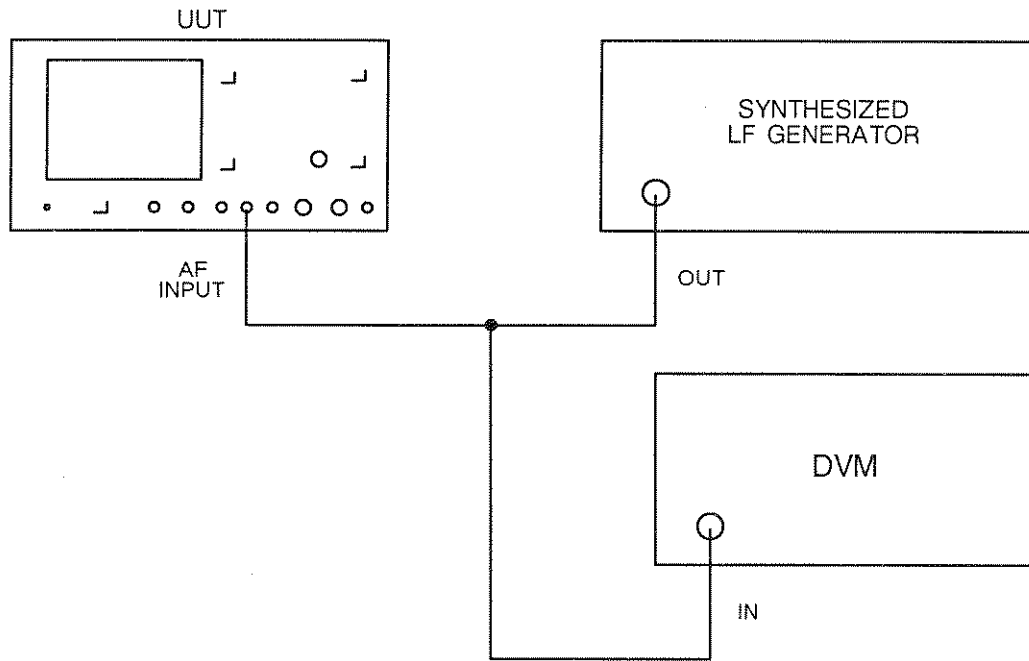

Fig. 5-8 Test equipment connections for voltmeter frequency response
- (1) Connect the equipment as shown in Fig. 5-8.